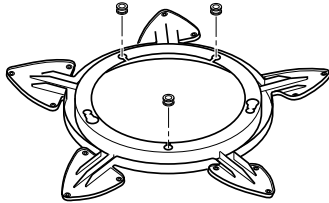

Figure 6b - Attaching Grommets to Speed Ring™
1. Position three grommets in the cut-out slots in the Speed Ring™ as shown in Figure 6b.